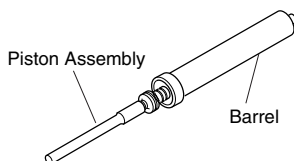

Figure 4 - Removing Piston Assembly from Barrel
6. Pull piston assembly, using moderate force, from barrel (see Figure 4).